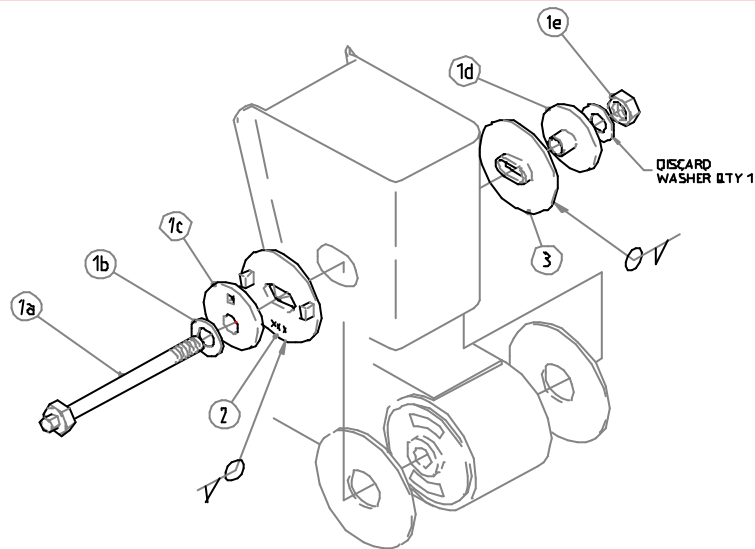

Figure 1
5. Insert items 2 and 3 into the hanger as in *Figure 1*. Ensure item 2 is orientated with the part number to the bottom and located outboard of the hanger. Assemble the remaining kit components as shown and tighten the pivot bolt until it contacts the washer/flange adaptors however do not torque the bolt.
Note: *Discard one of the 7/8" hardened flat washers from the hardware kit as shown in Figure 1.*
6. Using a copper hammer, strike both the flange adaptors (item 2 and 3) to ensure they are correctly seated in the hanger slots with the adaptors as far forward as possible.
7. Weld the adaptors to the hangers as specified in *Figure 1*.
8. Remove the pivot bolt and eccentric (items 1) and allow the welded adaptors to air cool.